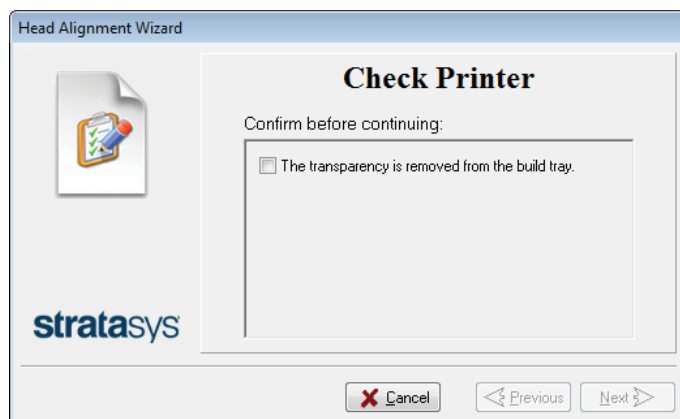

Figure 4-58 Head Alignment wizard—steps 9–11
11. In the wizard screen shown in Figure 4-58, select the *Transparency removed* check box, and click Next.